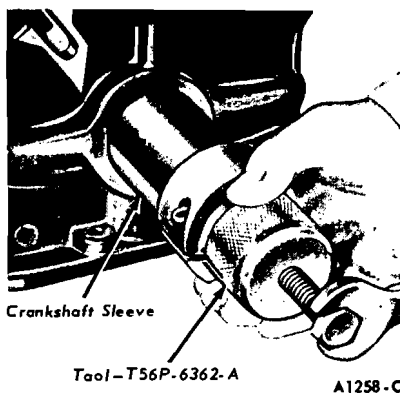

FIG. 42—Crankshaft Sleeve Removal
9. Remove the crankshaft sleeve as shown in Fig. 42.